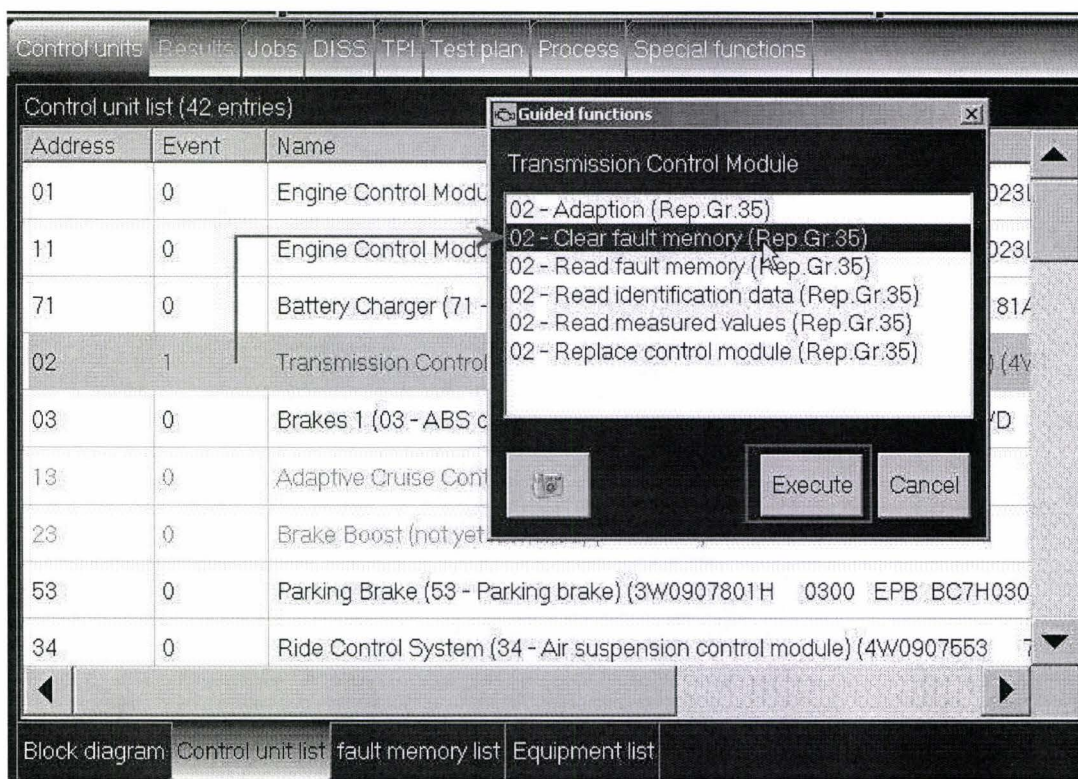

Figure 9
18. NOTE 2: It is possible that an engine or transmission fault code may require guided fault finding to be used directly in that specific control module to clear the fault code (see Figure 9)